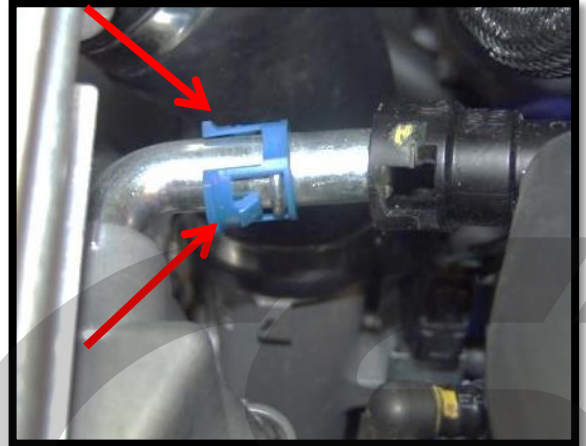

Figure 1d
- f) Remove the valve cover breather tube. Push the hose connector toward the valve cover and press both sides of the colored clip simultaneously. Pull the hose away from the valve cover (**Figure 1d**).